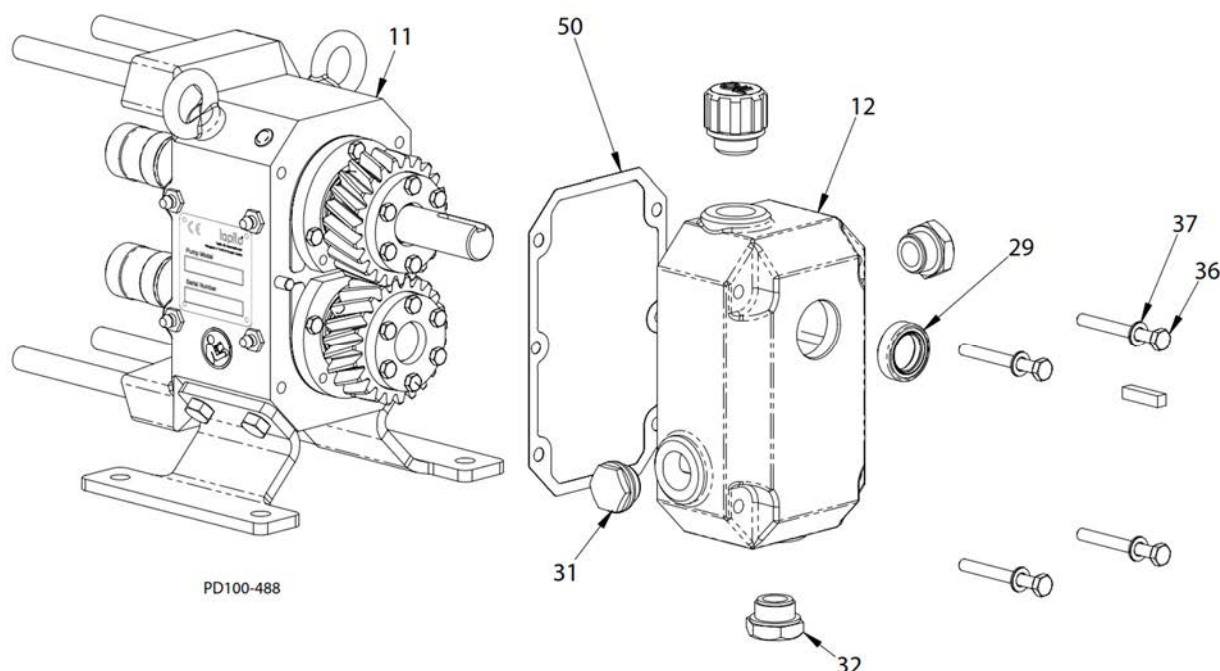

Fig. 36: Remove Gear Case Cover
3. Remove the cap screws (Figure 36, item 36) and washers (item 37) and remove the cover (item 12).
4. Remove the input shaft seal (item 29) from the gear cover and discard it.
5. Inspect the level indicator plug (item 31) and replace it if it appears cloudy or stained.
6. Remove the gasket (Figure 36, item 50) and discard it. Carefully scrape any gasket residue from the mating surfaces of the gear cover (item 12) or gear case (item 11).